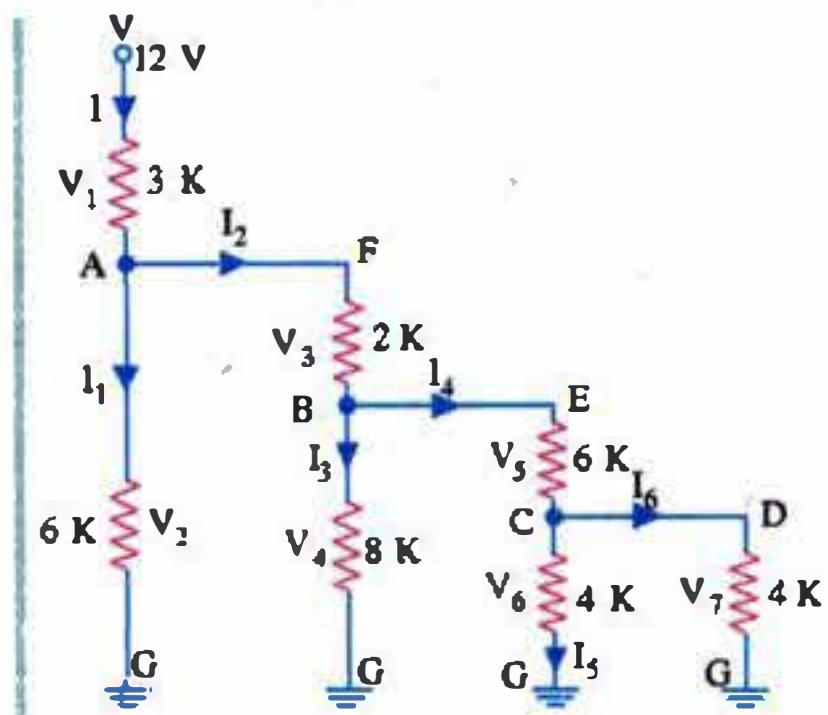

Fig. 2.32
**Example 2.9. (a).** Find the current and voltage drop across each resistor in Fig. 2.32.
**Solution.** (a) We will first find the combined resistance of the circuit shown in Fig. 2.32. We will use laws of series and parallel combination and start from point D upwards to point A. As seen, there are two 4 K resistors in parallel across point C (or D) and ground G.